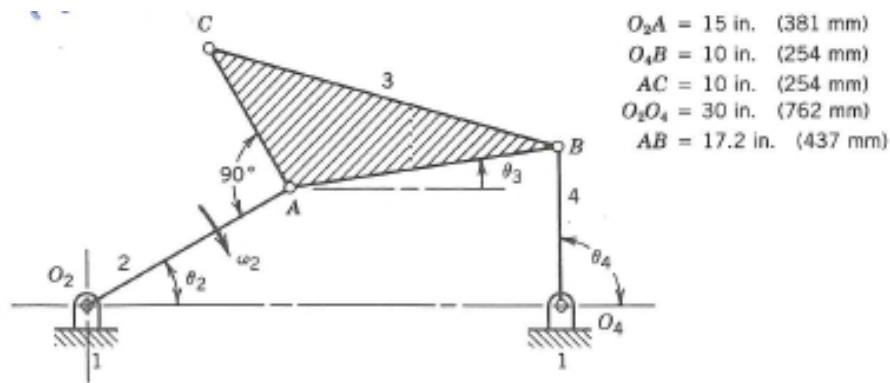

FIGURE 2.56
1. For the linkage of Fig. 2.56, construct a table showing the angles θ_3 and θ_4 as a function of θ_2 for 10° increments of θ_2 from 0° to 360° . Clearly indicate those values of θ_2 for which the mechanism will not assemble.